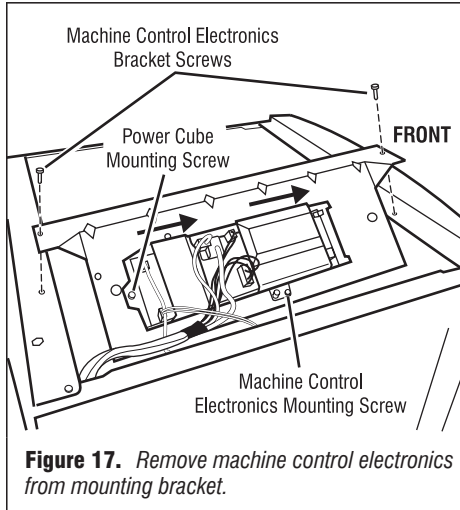
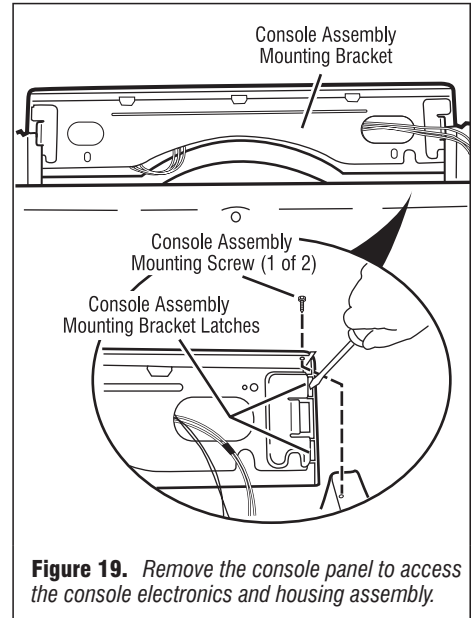

Figure 17. Remove machine control electronics from mounting bracket.
Figure 19. Remove the console panel to access the console electronics and housing assembly.
2. Slide the bracket over the top of the drum to access the machine control electronics connectors and mounting screw. See figure 17, page 10.
4. Remove the screw holding the machine control electronics assembly to the mounting bracket. See figure 17.
3. Remove the screw holding the UI power cube to the mounting bracket. See figure 17.
2. Remove the screw that fastens the assembly to the machine control mounting bracket (figure 17), and the two screws that fasten the console assembly to the machine (figure 19).
4. Slide the console up and off of the machine. See figure 19, page 10.
5. The console mounting bracket is fastened to the console front panel with two latches at both sides of the console assembly. Unlatch the bracket gently with a screwdriver while pulling the mounting bracket assembly out. See figure 19, page 10.